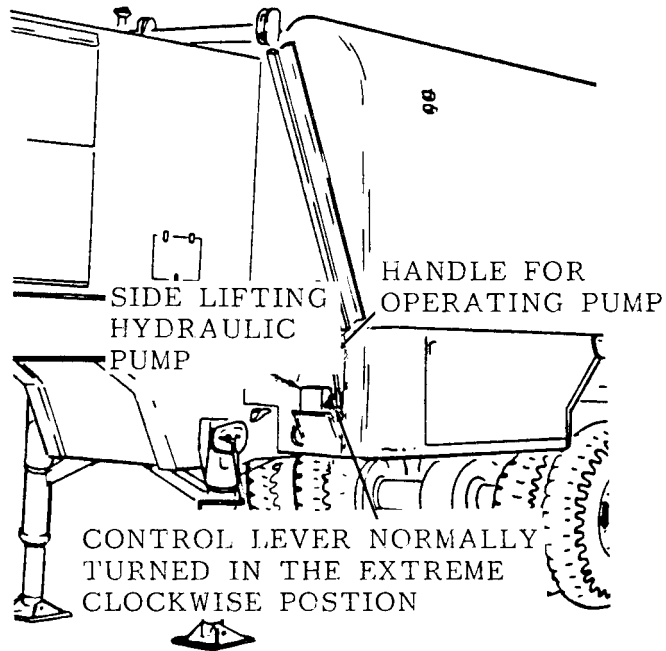

Figure 2-1. Hydraulic System Controls.
- a. Hydraulic Systems. The two hydraulic systems that raise and lower the top doors are each operated by a manually operated hydraulic pump shown in figure 2-1. Insert the handle in the lever on top of the pump to operate the pump. Turn the control valve clockwise to raise the doors and counterclockwise to lower the doors.